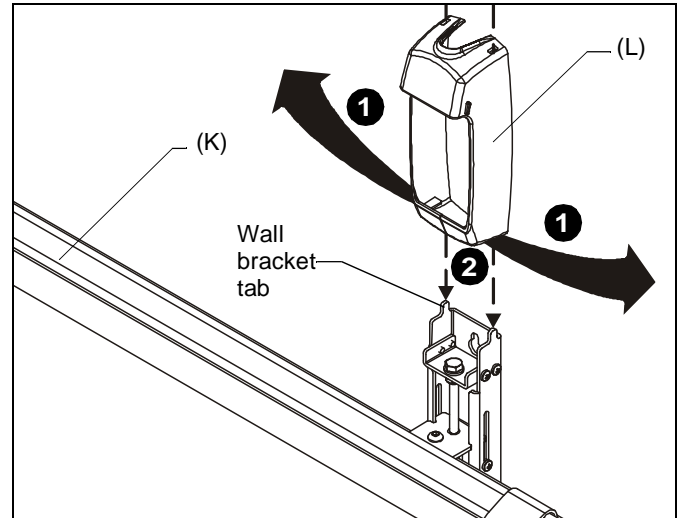

Figure 20
1. Open the lower flaps of the wall bracket cover (L) outward. (See Figure 20)
2. Slide the cover downward, hooking the top of the wall bracket covers (L) onto the tabs on top of wall assembly brackets. (See Figure 20)
3. Slide the lower flaps of the wall bracket cover (L) under the bottom of the wall assembly brackets (K). (See Figure 20)